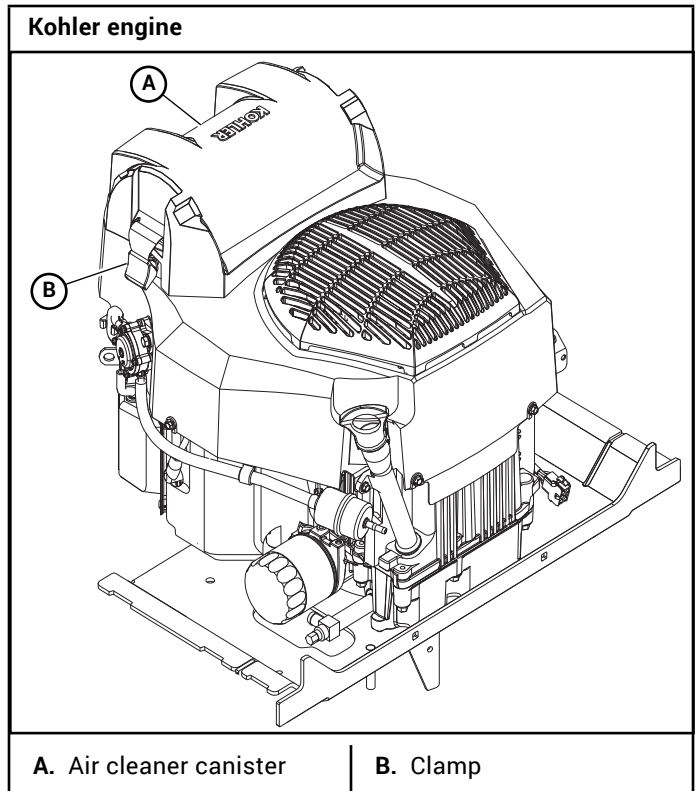

Figure 4-13
A specially designed dry filter is standard equipment on these mowers and supplies clean combustion air to the engine. Figure 4-13
3. Reinstall the top of the canister housing. Make sure it seals all the way around the lower part of the housing, then tighten the clamps. Figure 4-13